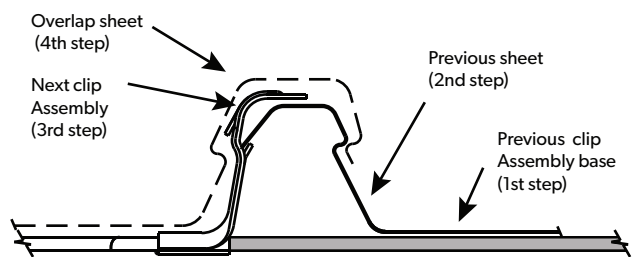

FIGURE 9.1.13:
12. Fully engage the two sheets along the overlapping rib. You can do this by walking along the full length of the sheet with one foot in the centre pan of the previous sheet and the other foot applying vertical pressure to the top of the interlocking ribs at regular intervals. It is recommended that you don't walk in the unsupported pan beside the underlapping rib. (Figure 9.1.13).